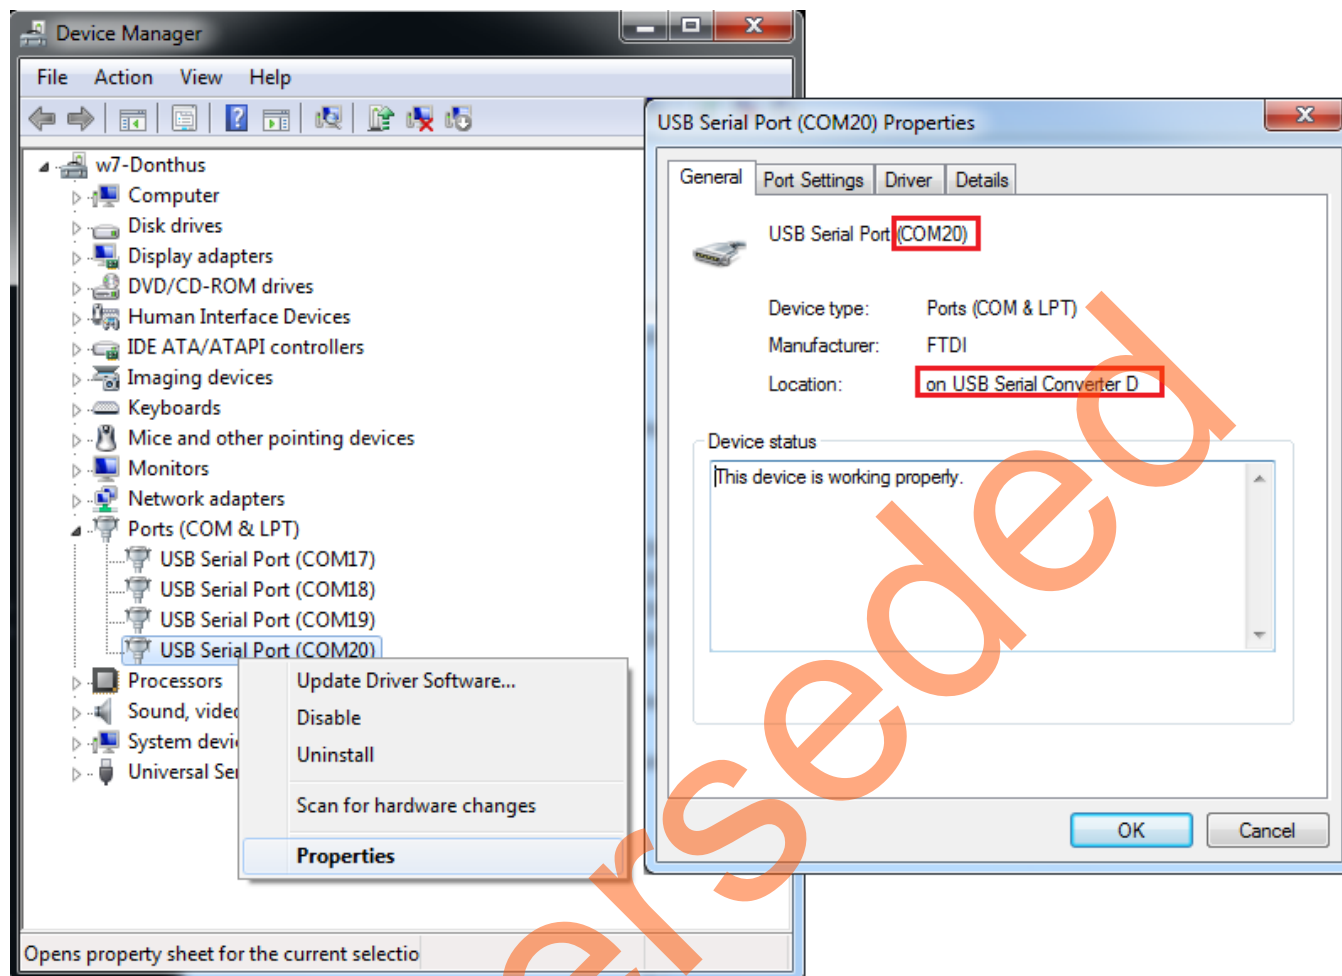

Figure 3. USB to UART Bridge Drivers
2. Connect one end of the USB mini-B cable to the J18 connector provided in the SmartFusion2 Evaluation Kit. Connect the other end of the USB cable to the host PC. Make sure that the USB to UART Bridge drivers are automatically detected (can be verified in the Device Manager), as shown in Figure 3.
Note: Copy the COM port number for serial port configuration. Ensure that the COM port **Location** is specified as 'on USB Serial Converter D' as shown in Figure 3.